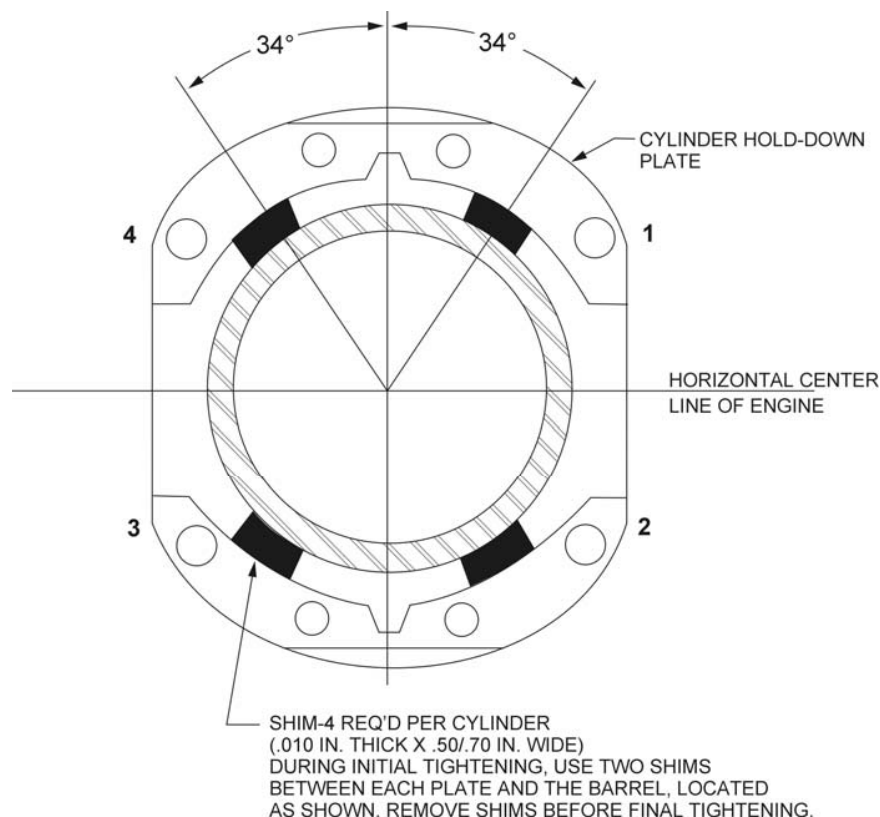

Figure 5-5. Location of Shims Between Cylinder Barrel and Hold-Down Plates (where applicable) and Sequence of Tightening Cylinder Base Hold-Down Nuts
- (5) Assemble hold-down plates (where applicable) and cylinder base hold-down nuts and tighten as directed in the following steps.
- (a) *Engine Using Hold-Down Plates* – Install shims between cylinder base hold-down plates and cylinder barrel, as directed in Figure 5-5, and tighten  $\frac{1}{2}$  inch hold-down nuts to 300 in.-lbs. (25 ft.-lbs.) torque, using the sequence shown in Figure 5-5.
- (6) Install new shroud tube oil seals on both ends of shroud tube. Install shroud tube and lock in place as required for type of cylinder.
- (7) Assemble each push rod in its respective shroud tube, and assemble each rocker in its respective position by placing rocker between bosses and sliding valve rocker shaft in place to retain rocker. Before installing exhaust valve rocker, place rotator cap over end of exhaust valve stem.
- (8) Be sure that the piston is at top center of compression stroke and that both valves are closed. Check clearance between the valve stem tip and the valve rocker. In order to check this clearance, place the thumb of one hand on the valve rocker directly over the end of the push rod and push down so as to compress the hydraulic tappet spring. While holding the spring compressed, the valve clearance should be between .028 and .080 inch. If clearance does not come within these limits, remove the push rod and insert a longer or shorter push rod, as required to correct clearance.